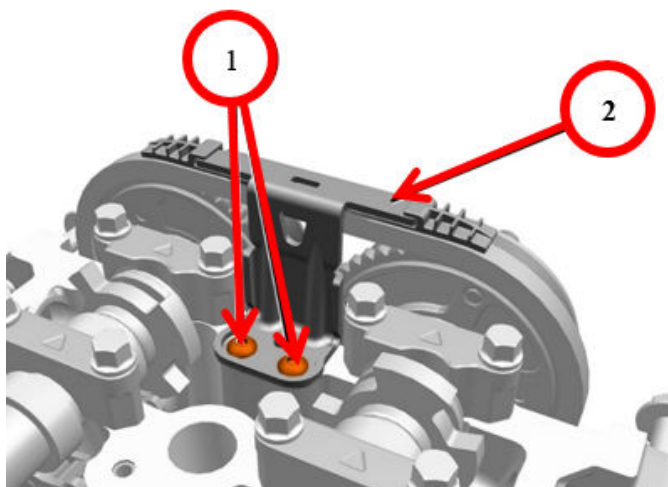

Fig. 2
4. Undo the screws and remove the cylinder head side fixed tensioner pad snubber Fig. 2.